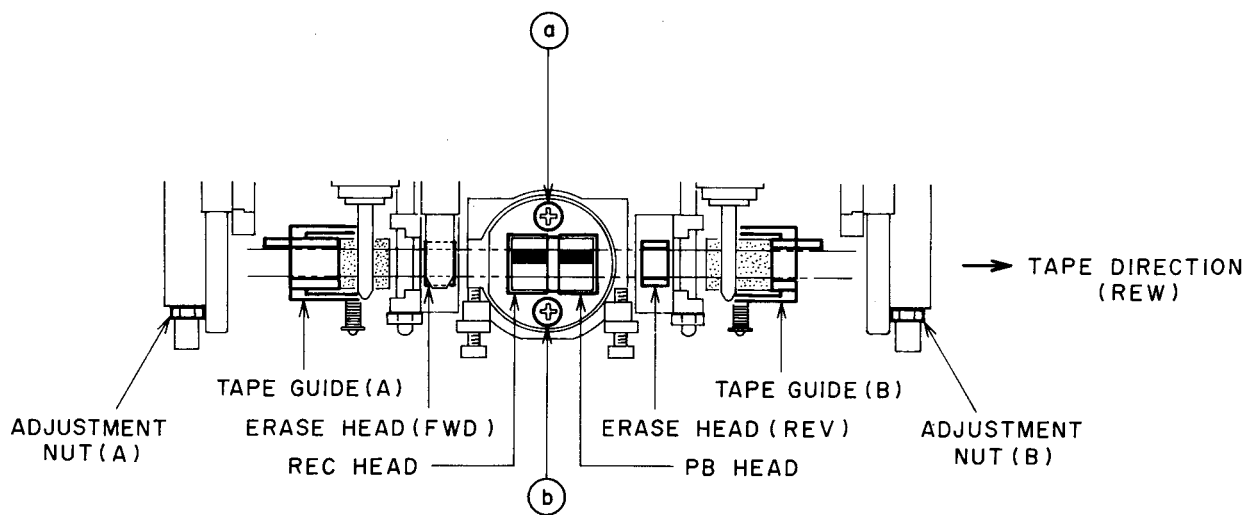

Fig. 6-1
### 6-1-2 When only Erase Head was replaced (Refer to Figs. 6-1 and 6-2)
### 6-3 HEAD HEIGHT ADJUSTMENT (Refer to Figs. 6-1 & 6-2)
- 3) If the difference is more than  $\pm 0.5$  dBm in item 2), adjust the erase heads by turning both Erase Head Height Adjustment screws ⑦ & ⑧ in the same direction by  $1/4$  turn ( $\pm 0.1$  mm), so that difference is within  $\pm 0.5$  dBm.
- 4) The Head Height Adjustment is necessary if still the difference could not be corrected by above adjustment. It can be done by changing the Head Height Adjustment Spacers ⑨ & ⑩ (The thicknesses of these spacers are ⑨ =  $0.45$  mm, ⑩ =  $0.35$  mm). Loosen the screws ⑪ ⑫ & ⑬ for the spacer replacement. If the level is lower in REV mode, it means that the head is too high, therefore replace the spacers by thinner ones. When the level is higher in REV mode, replace them by thicker ones. After the replacement of those spacers, do the same adjustment in item 1) and check the level of LINE OUT is  $-5.5$  dBm  $\pm 0.5$  dBm. For the further confirmation, playback a 4 Track head Height Adjustment Tape (1 kHz/4 Track, AT-750775). Line Output level of both channels should be more than  $-8$  dBm and the difference in level between FWD and REV modes should be within  $\pm 1$  dB. Otherwise do the fine adjustment in the same manner as item 3) & 4).
- 5) When the head replacement is necessary, loosen only the screws ⑭ & ⑮ in Fig. 6-1 for easy replacement.
### 6-1 TAPE GUIDE HEIGHT ADJUSTMENT (Refer to Figs. 6-1 and 6-2)